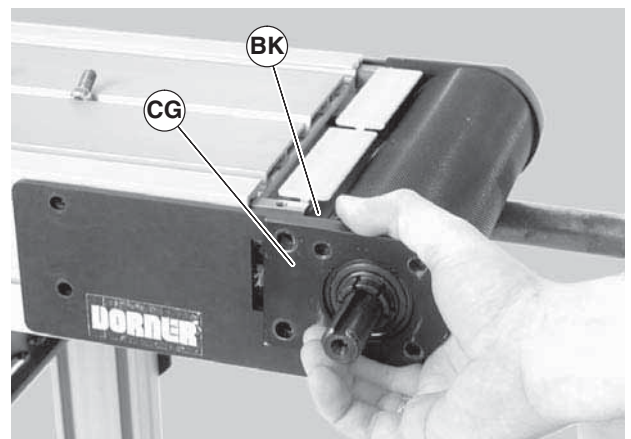

Figure 71
7. Slide the drive pulley (Figure 71, item CH) out of the headplate on the opposite side.